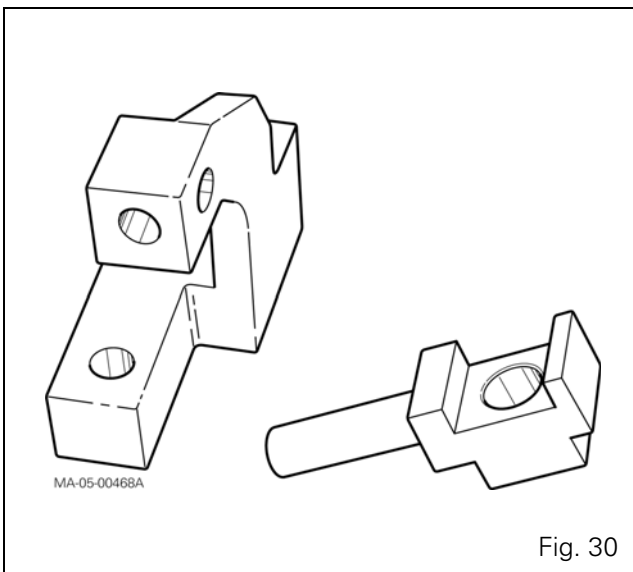

Fig. 30
- **3378325M11**: - Hare and Tortoise fork locking stop adjustment tool (Fig. 30)